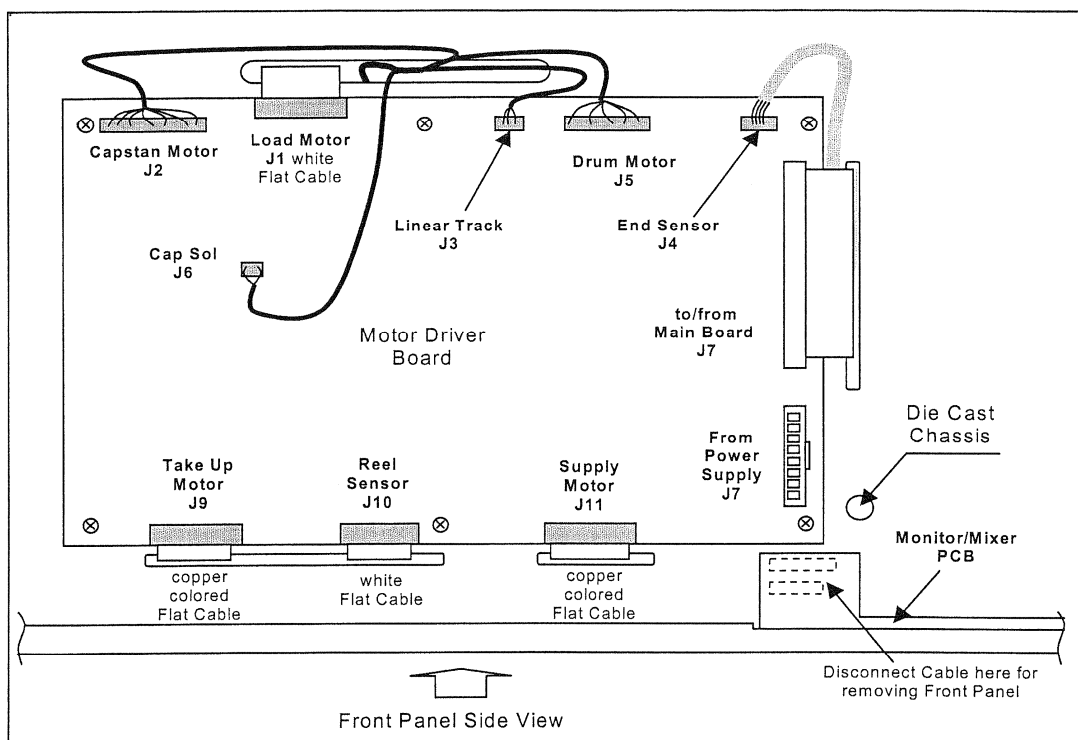

Figure 3 - Cable and Connector Placement (Motor Driver Board)
- Disconnect following cables from the transport, which are accessible from the bottom side of the machine (refer to Figure 3 see Motor Driver Board):